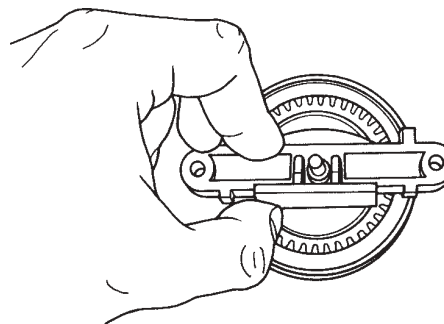

Figure 7.13
- C. Assemble the bearing bar to the distributor block with the brush shield facing the notch in the distributor block as shown in Figure 7.13.